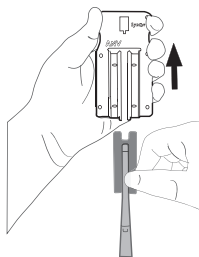

Figure 8
21. Hold both sides of the stapler jaws and remove the plastic sheath leaving the foam spacer between the stapler jaws (See Figure 8). Discard the plastic sheath.